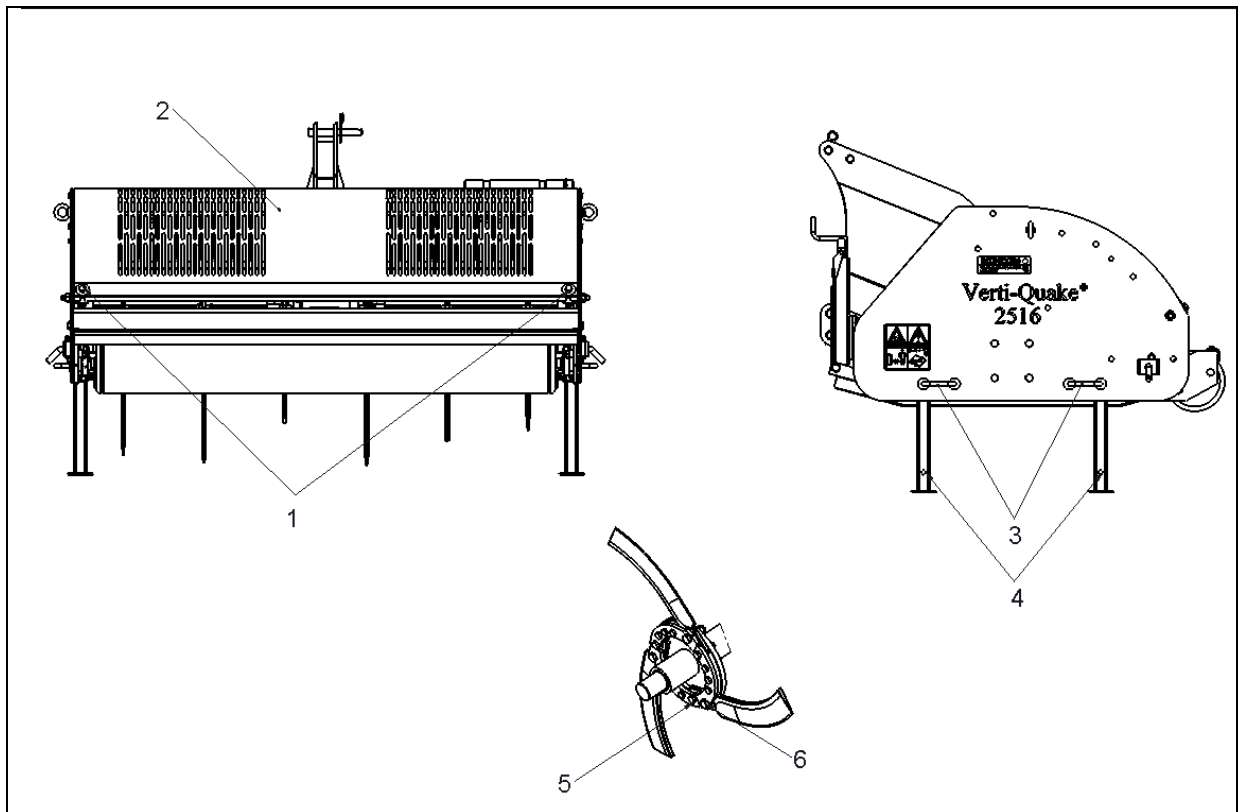

Fig. 7
1. Loosen the bolts 1. Open the access hatch 2. (fig. 7)
12. Close the access hatch 2 and secure these by tightening bolts 1. (fig. 7)